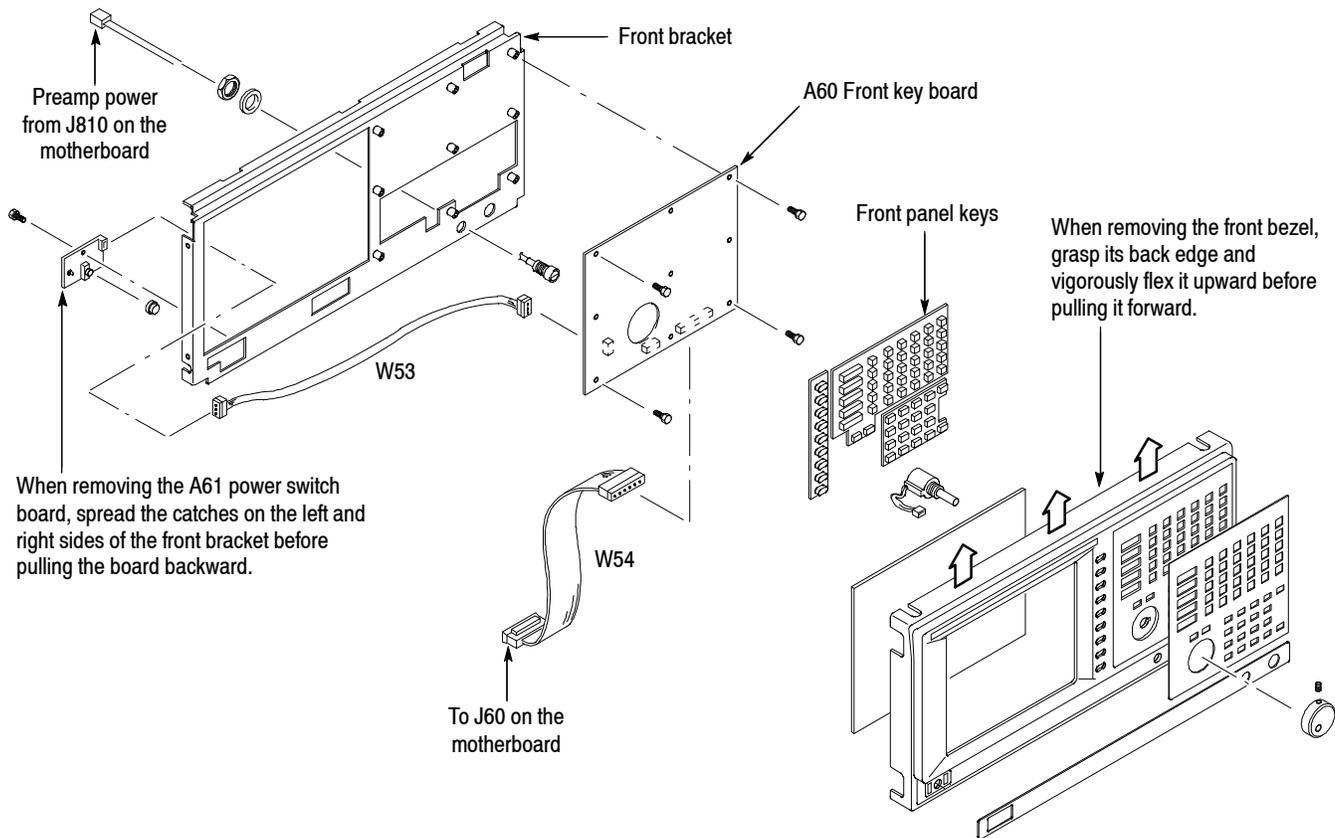

Figure 5-29: Front panel modules removal
3. *Remove the general purpose knob:* See Figure 5-29. Loosen the setscrew securing the knob using the $\frac{1}{16}$ inch hex wrench. Pull the knob away.
4. *Remove the rotary encoder:* See Figure 5-29.
3. *Remove the front bezel and menu buttons:* See Figure 5-29. Grasp the front bezel by its top edge, pry it up, and lift it forward to snap it off of the front bracket. If servicing the menu buttons, lift them out of the front bezel.
3. *Remove the A60 Front key board:* See Figure 5-29.
3. *Remove the A61 Power switch board:* See Figure 5-29.
3. *Remove the preamplifier power connector:* See Figure 5-29. Using the 14 mm nutdriver, remove the nut securing the connector to the front bracket.